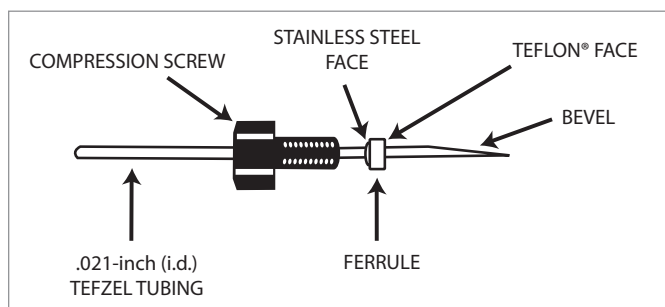

Figure 2: Ferrule and Compression Assembly (Non-Metallic Column).
1. Use a sharp razor blade to make a long tapering cut in the tubing as shown in Figure 2. Alternately, if tubing is not in short supply, stretch the tubing (after warming over low heat) between two sets of pliers and cut the tube at thinnest point. The resulting taper will slip through the fittings more easily.